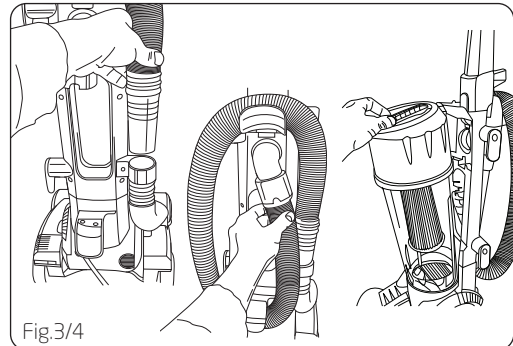

Fig.3/4
5. Store the TurboTool in the caddy on the handle (U91-P3P only) (Fig.3/5).